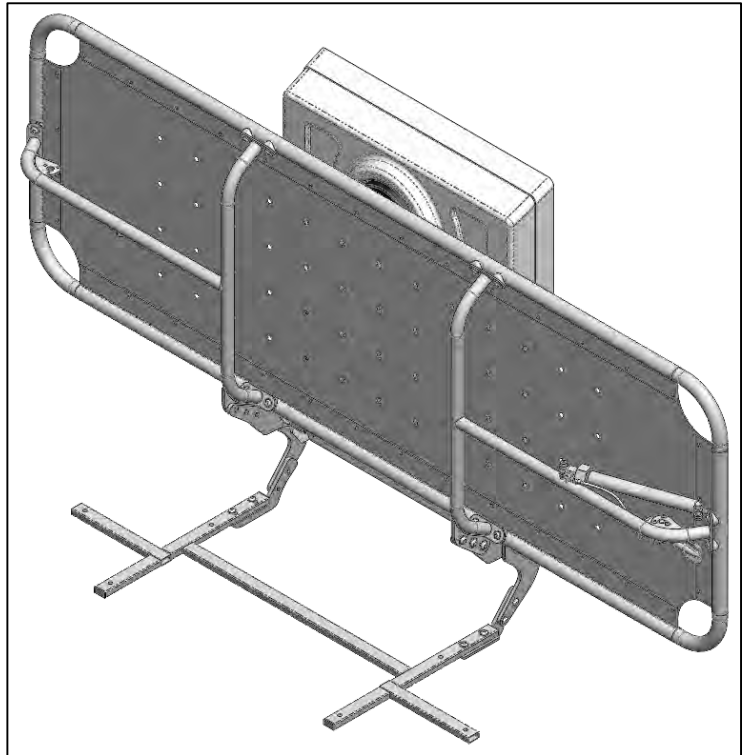

Fig. 4
- The product should look similar to the image shown in Fig.4.